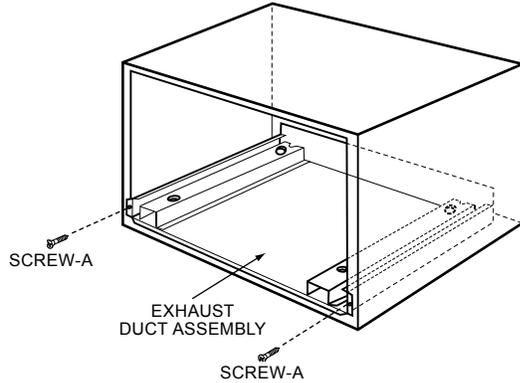

Figure 2
- Place the EXHAUST DUCT ASSEMBLY in the opening. When the EXHAUST DUCT ASSEMBLY is in the opening correctly, its flanges will be tightly against the lower edge of the opening. See Figure 2.
- Secure the EXHAUST DUCT ASSEMBLY with two SCREWS A. See Figure 2.